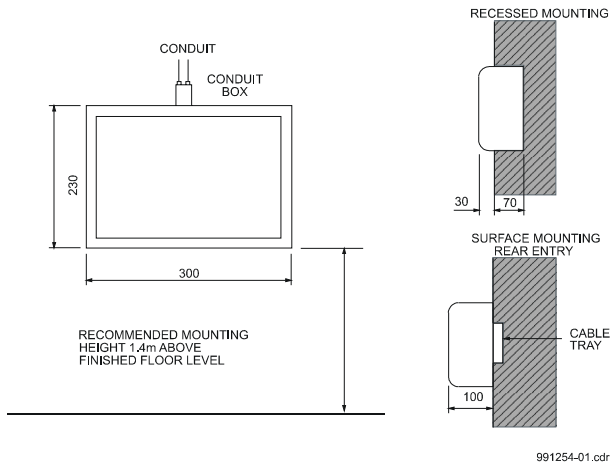

Figure 2: ZP3-ECUS Mounting Arrangements
The ECUS can be either surface mounted or recessed semi-flush into a wall as shown in Figure 2.
6. Mount the ECUS housing onto the three M5 securing bolts see (Figure 3) in the surface mount or semi-flushed recess positions (see Figure 2).